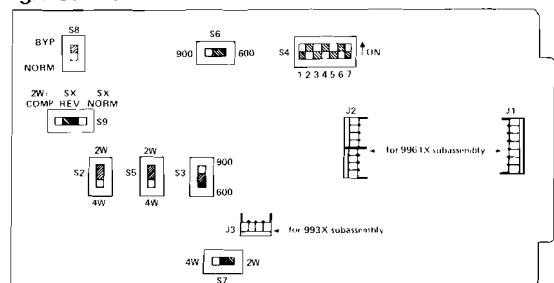

figure 2. 6461R option switch locations
3.05 All options in the 6461R are selected via slide or DIP switches located as shown in figure 2. Table 2 lists these options and indicates the option choices, which are described in paragraphs 3.06 through 3.11.